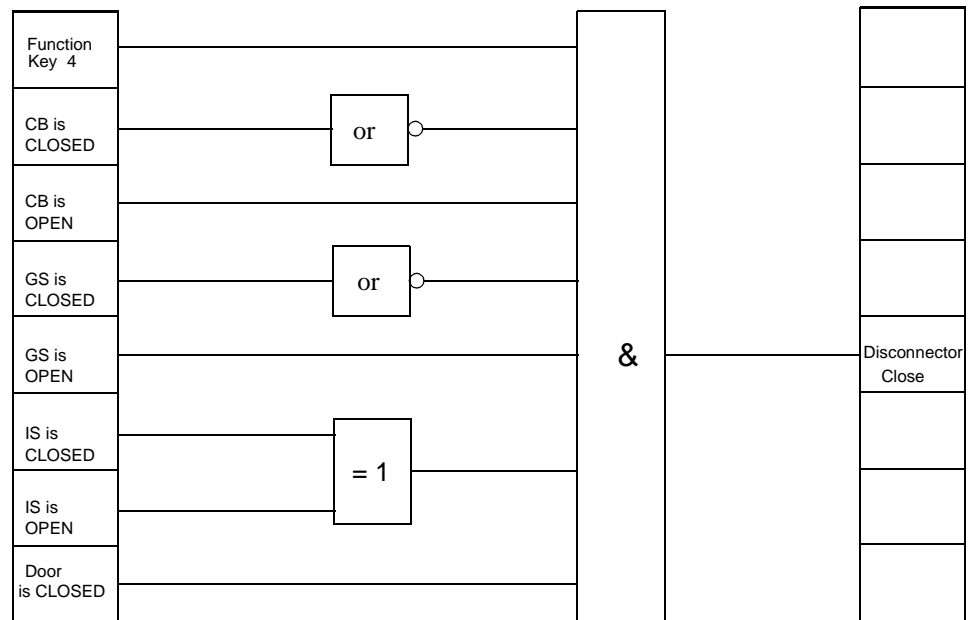

Figure 5-40 Interlocking an Disconnect Switch as an Example of a User Defined Interlock Protective Function
Interlocking logic (see Figure 5-40) is to be implemented for the operation of an isolating switch using function key 4. The user must take the switch position indications of the corresponding isolation switch and the grounding switch into account. The CLOSE and TRIP indications from the auxiliary contacts of each switch are used.
- The CLOSE indications from the circuit breaker (CB) and from the grounding switch (GS) are supplied to the inputs of the NOR functions.
- The OPEN indications from the circuit breaker (CB) and from the grounding switch (GS) are supplied to the inputs of the AND function.
- The switch position indications from the disconnect switch (IS) are linked to the inputs of the XOR function.
- Function key 4 is linked with an input of the AND function.